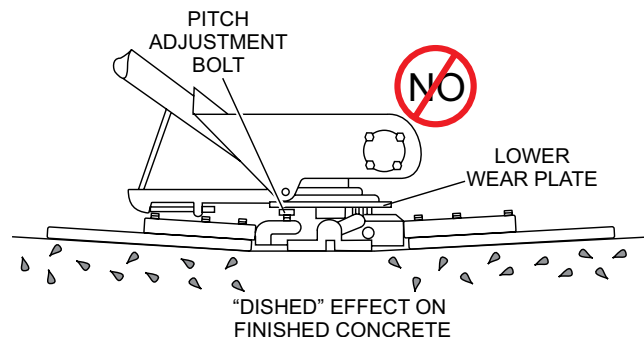

Figure 56. Incorrect Spider Plate Alignment
6. Figure 56 illustrates, “incorrect alignment”, worn spider bushings or bent trowel arms.